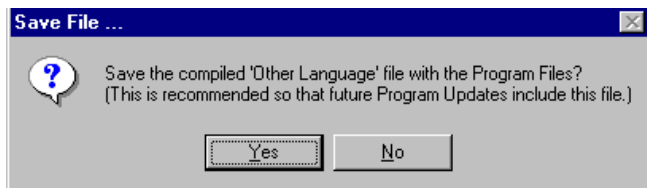

Fig. 13.68
13. A "Save File" dialog box will display (Fig. 13.68), asking for confirmation to save the Other Language file with the Program files so future Program Updates will include this file. Answering "Yes" is recommended.